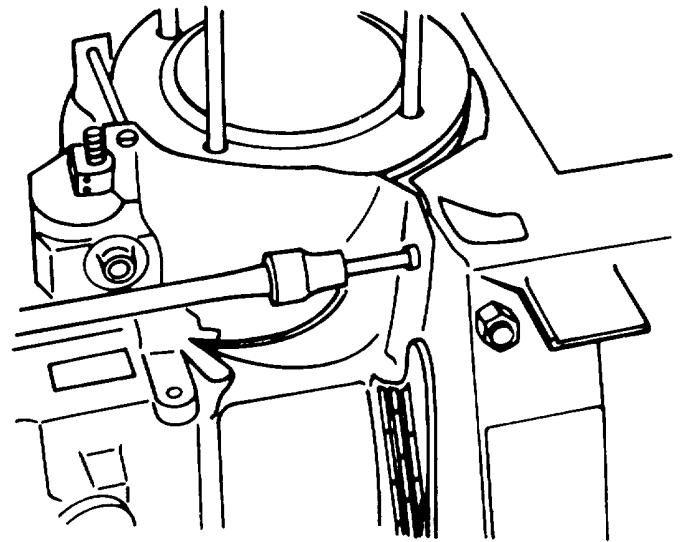

Figure A-13. Cylinder Shield
j. Cylinder Shield. Completely remove the cylinder shield from the cylinder head using a 4mm allen wrench. (Figure A-13.)